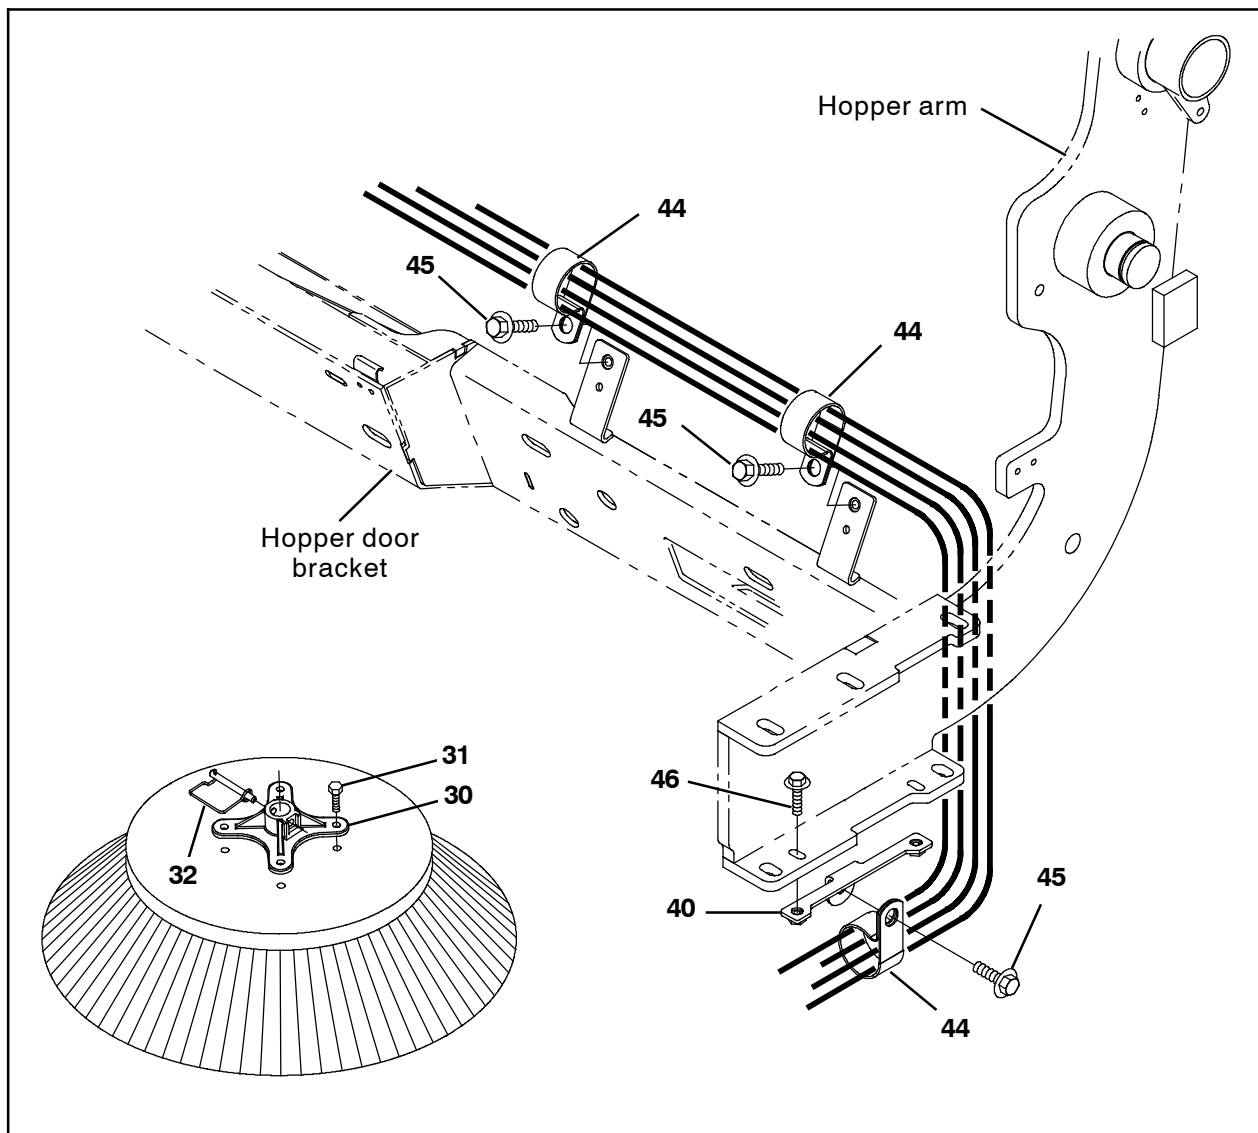

FIG. 8
28. Install the two clamps (44) onto hydraulic hoses and use two M8 SEMS hex screws (45) to install the two clamps (44) onto the hopper door bracket. (Fig. 8)
29. Use two M6 SEMS hex screws (46) to install the keeper clip (40) onto the hopper arm. (Fig. 8)
30. Install another clamp (44) onto hydraulic hoses and use one M8 SEMS hex screw (45) to secure the clamp to the keeper clip (40). (Fig. 8)
31. Use cable ties (47) to secure the hydraulic hoses away from moving parts.
33. Use four hex wood screws (31) to install the hub (30) onto the brush. (Fig. 8)
34. Use the side brush clip (32) to install the brush onto the left side brush assembly. (Fig. 8)